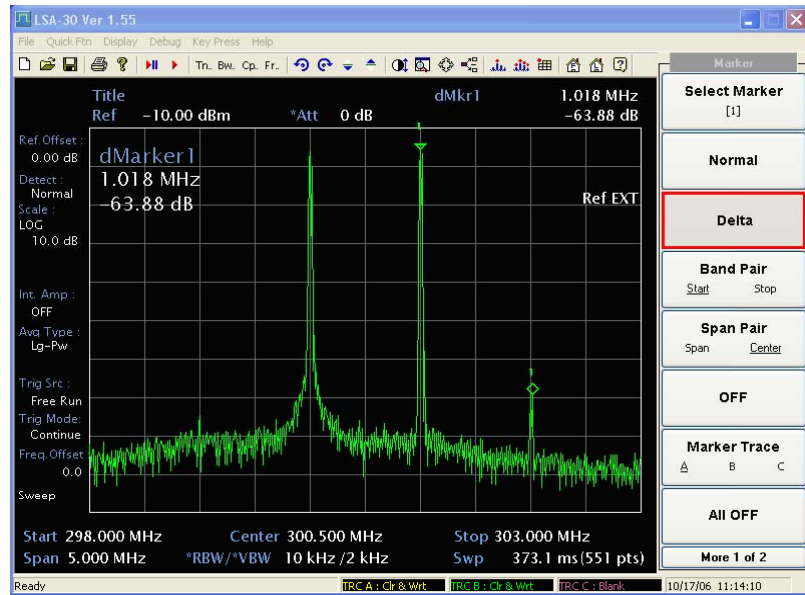

Fig. B-19 Measuring the distortion product
- 5 To measure the other distortion product, press [Peak], [Next Pk Left] or [Next Pk Right]. This places a marker on the next highest peak, which, in this case, is the other source signal. To measure the difference between this test signal and the second distortion product, press [Marker], [Delta] and use the knob to adjust the second marker to the peak of the second distortion product: see Fig. B-19.